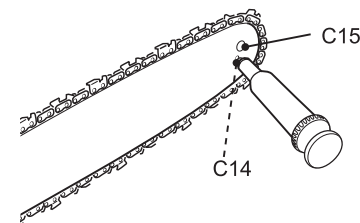

Fig. 37
**NOTE:** It is not necessary to remove the saw chain (14) to lubricate the sprocket wheel. Lubrication can be done on the job.
1. Clean the sprocket wheel (15).
2. Using a disposable lube gun, insert the needle nose into the lubrication hole (Fig. 37, A) and inject grease until it appears at the outside edge of the sprocket (15) (Fig. 37).